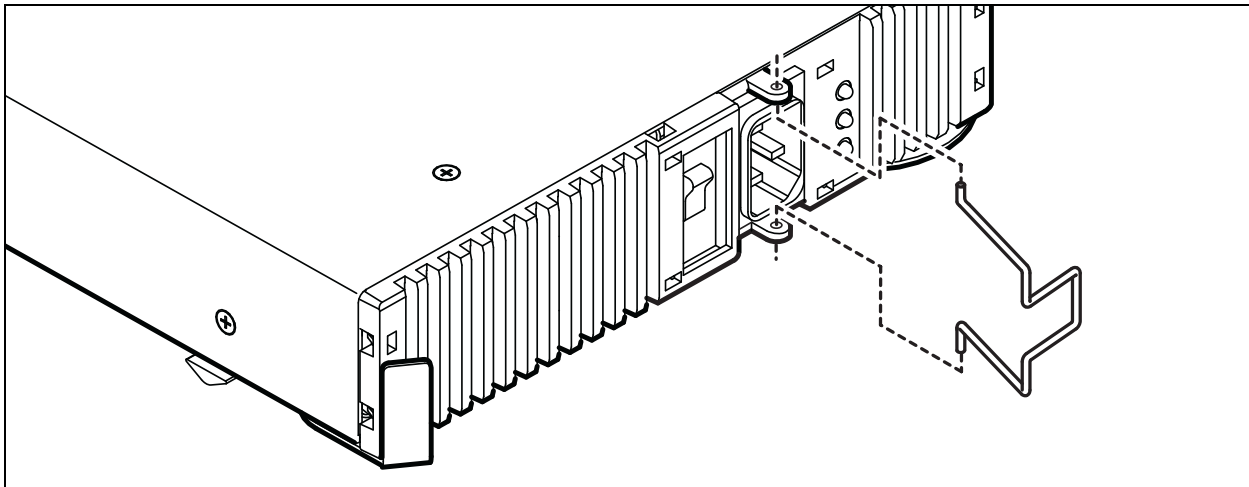

Figure 3-5 Attaching the Power Cord Restraint Bail
1. Attach a power cord restraint bail to each Power Supply blade as show in Figure 3-5.